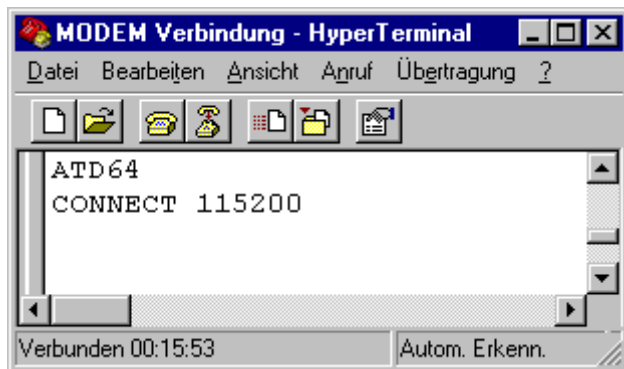

figure 12: HyperTerminal: establish connection
- The next step is to call the grabbMODUL-4 modem and establish a connection. The call is done by „ATDxxx<ENTER>“ (**xx stands for the MODUL-modem calling number!**). The grabbMODUL-4 on the remote side will answer the call after the first „RING“. After the two modems have connected the PC-modem will send an answer. If the connection was successful this answer will always begin with „CONNECT ...“ (see figure 12).